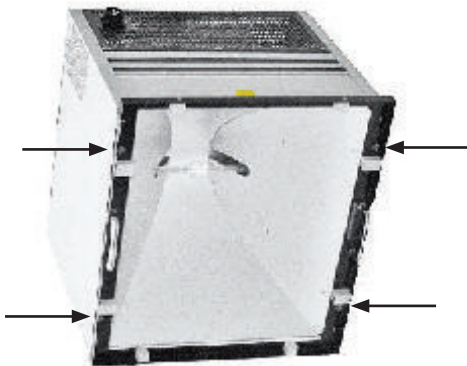

Figure 5-3 MHG Lamp Rotary Lock Screw Locations
3) Using a large flat-blade screwdriver, open the four rotary locks on the front of the lamp frame (turn clockwise) as indicated in Fig. 5-3.